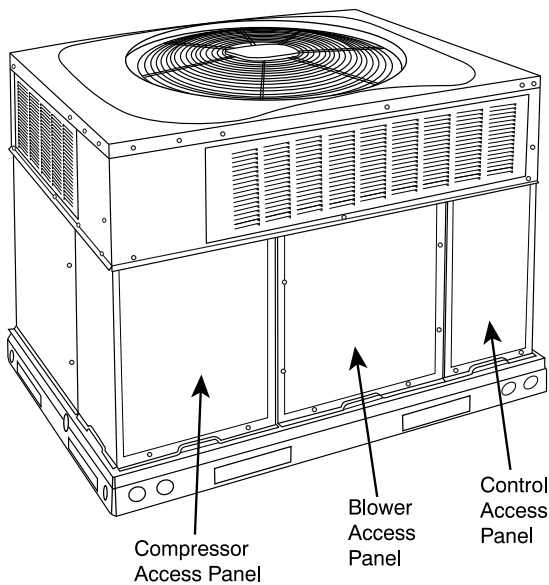

Fig. 20 – Unit Access Panels
- a. Remove blower access panel (see Fig. 20).
- g. Reinstall blower access panel (see Fig. 20).
Remove access panels (see Fig. 20) to locate all the electrical controls and wiring. Check all electrical connections for tightness. Tighten all screw connections. If any smoky or burned connections are noticed, disassemble the connection, clean all the parts, restrip the wire end and reassemble the connection properly and securely.
After inspecting the electrical controls and wiring, replace the access panels (see Fig. 20). Start the unit, and observe at least one complete heating cycle and one complete cooling cycle to ensure proper operation. If discrepancies are observed in either or both operating cycles, or if a suspected malfunction has occurred, check each electrical component